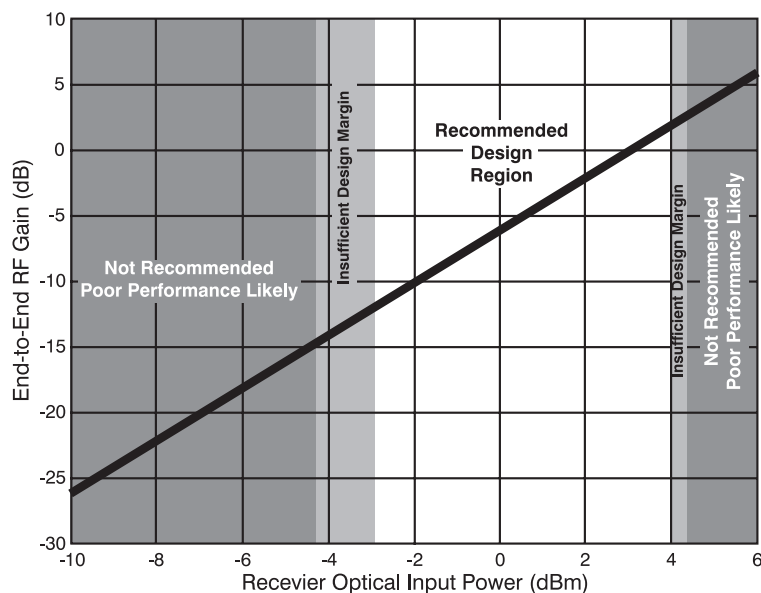

Figure 1.6 End-to-end Link Gain
- 11) Figure 1.6 shows the end-to-end RF gain of the 2806T/2809R combination. The amount of light that reaches the receiver determines the end-to-end gain. A typical 2806T/2809R combination will have unity gain (0 dB) at a received optical power of +3 dBm (2 milliwatt). The RF gain changes by 2 dB for every 1 dB change in received optical power. This curve will shift up and down by 3 or 4 dB due to variations in the lasers and amplifiers; however, the slope will always be 2.